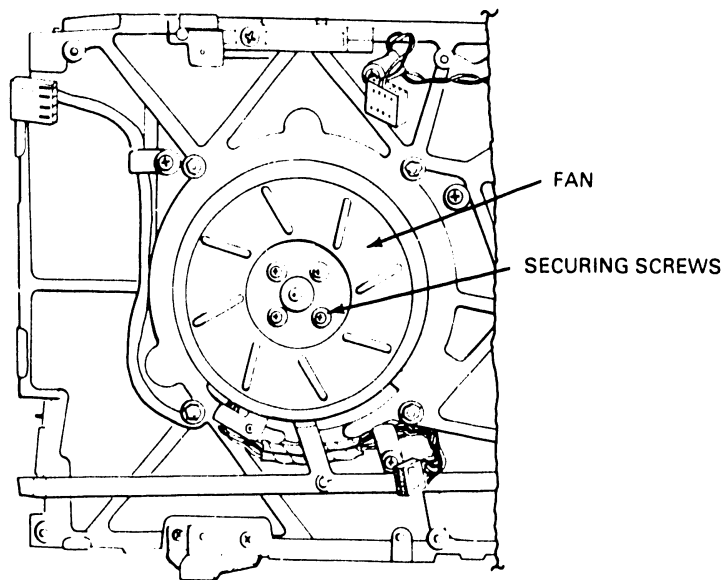

Figure 4-6 D2246 Fan
6. Loosen the four screws that secure the fan (see Figure 4-6) and remove the fan by lifting it straight up.